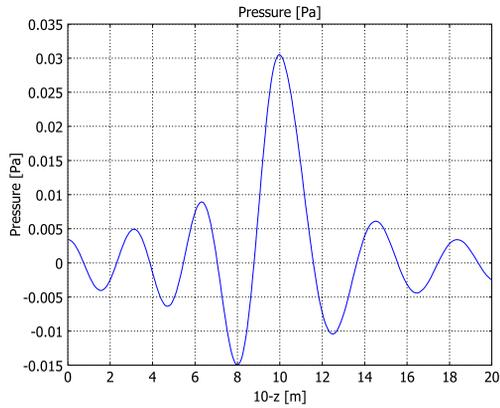
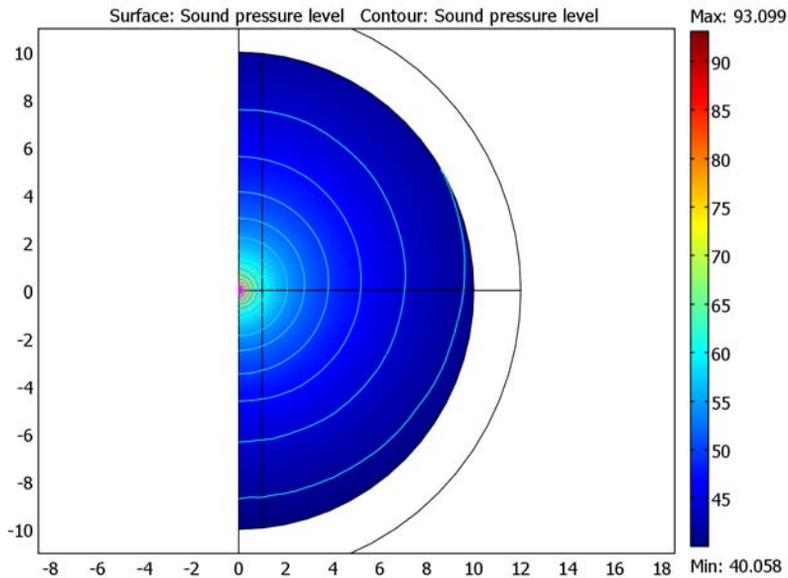

Figure 6-1: The pressure distribution along the observer's path.
Figure 6-2: Sound pressure level around the point source.
The acoustic wavelength decreases for a wavefront moving in the opposite direction of the airflow. This situation corresponds to the approach stage of the ambulance, which, for the stationary observer on the ground, implies a perceived frequency that is higher than the nominal source frequency,  $f$ . Conversely, the wavelength increases and the perceived frequency decreases when the acoustic wave moves with the flow during the departing stage. These two stages correspond, respectively, to the left and right halves of Figure 6-1, in which the horizontal-axis coordinate is chosen to correspond to time.
A careful inspection of Figure 6-1 also shows that the amplitude drops off at a faster rate to the right of the center than to the left. This effect is more clearly visible in Figure 6-2 and Figure 6-3, which both show the sound pressure level.
First generate Figure 6-2 with the following steps.
To generate Figure 6-1 and Figure 6-3 perform the following steps.
- 6 Click **Apply** to generate the plot in Figure 6-1.